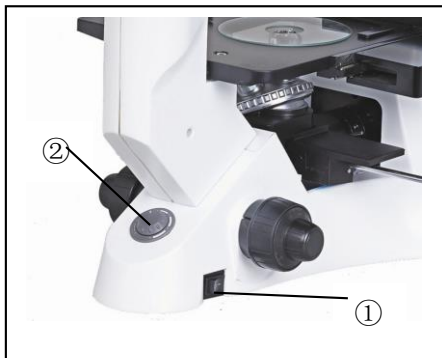

Fig 12
3.2.1 Turn power, adjusting brightness (fig 12)
Connect the power, turn on the main switch ① (shown on the fig.12) which on the bottom side of the base to “—” (on). Turning the brightness adjustment knob clockwise ②, the voltage raise, and the brightness strengthen; whereas turning at the contra direction, the voltage decline, and the brightness weaken.